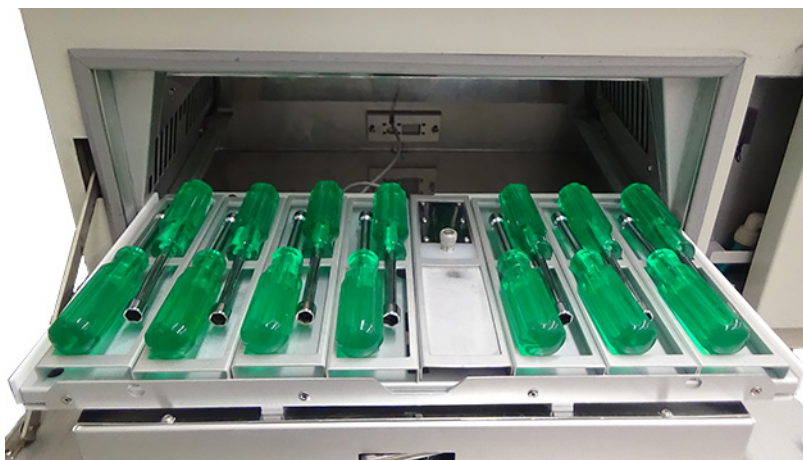

Figure 12.5e: Three-dimensional specimens mounted in specimen holders.
- Whenever possible, specimens should be mounted in a specimen holder (Figure 12.5e). If this is not possible specimens may be mounted directly on the tray.